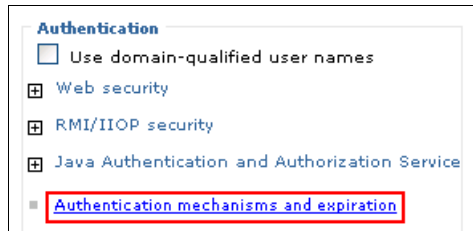

Figure A-79 Selecting Authentication mechanisms and expiration for WebSphere Process Server
27. Under Authentication, click **Authentication mechanisms and expiration** (Figure A-79).